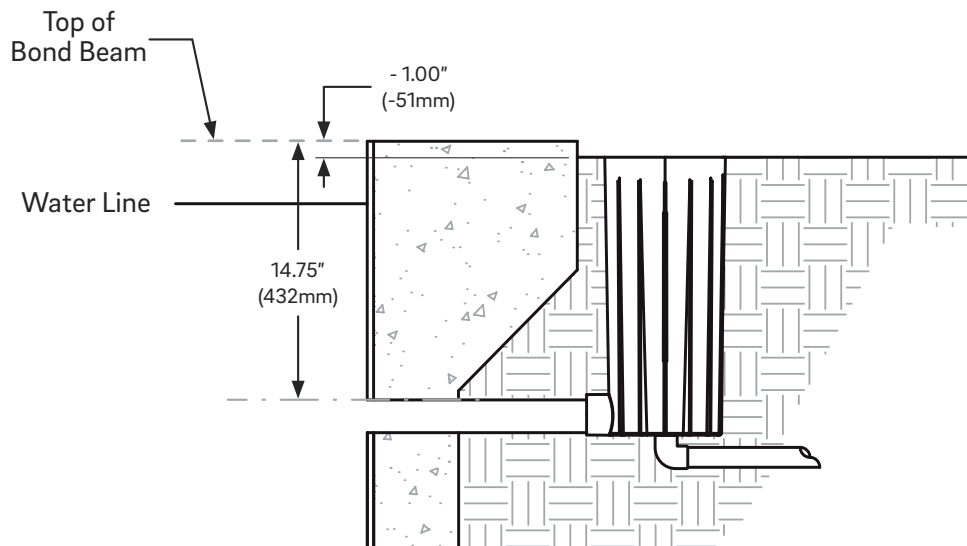

Figure 4
2. When using travertine or other thin deck material, make sure the top of the QuikWaterLeveler canister is set 1" **below** the top of the bond beam and as close to the form as possible. This will position with the 1.5" discharge line approximately 14.75" below the top of the form (Figure 4).